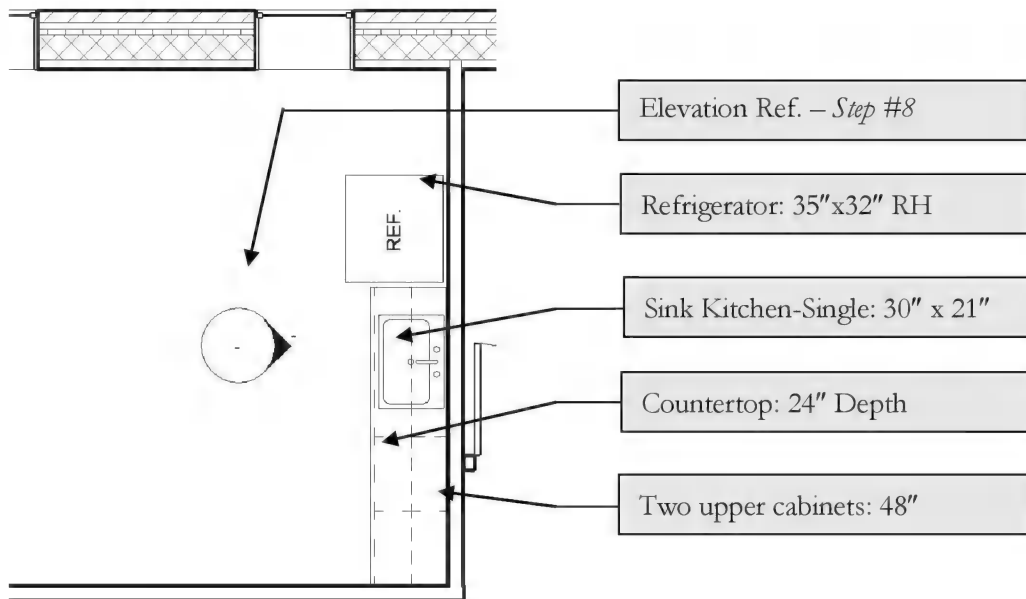

FIGURE 11-2.4 Completed plan view
Add the remaining items as shown in Figure 11-2.4; be sure to use snaps.
7. Add an interior elevation tag to set up the interior elevation view (Figure 11-2.4).